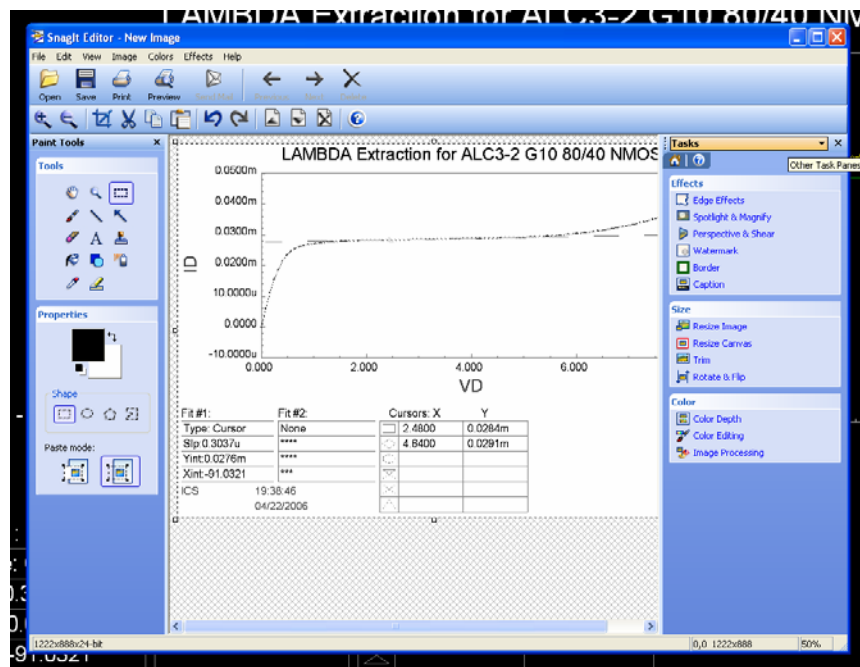

Figure 73: Pasting image on Editor
1. Paste the image you have captured on the window, see Figure 73.